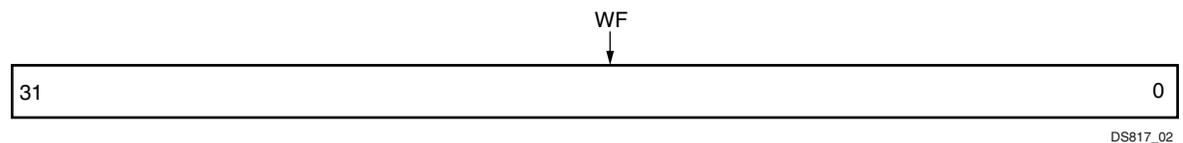

Figure 2-4: Write FIFO (WF)
The Write FIFO (WF) register shown in Figure 2-4 is a 32-bit keyhole register into a Write FIFO. The bit definitions for the Write FIFO are shown in Table 2-8.